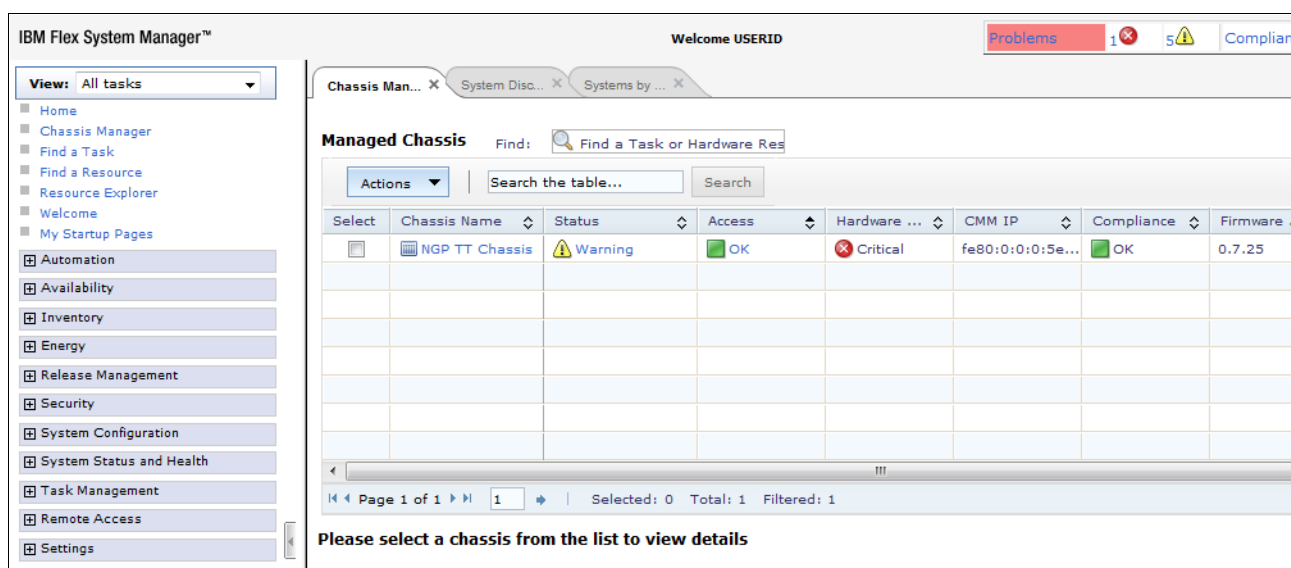

Figure 3-73 Flex System Manager main window
5. Enter the User ID and Password and click **Log in**. The main Flex System Manager window opens, as shown in Figure 3-73.